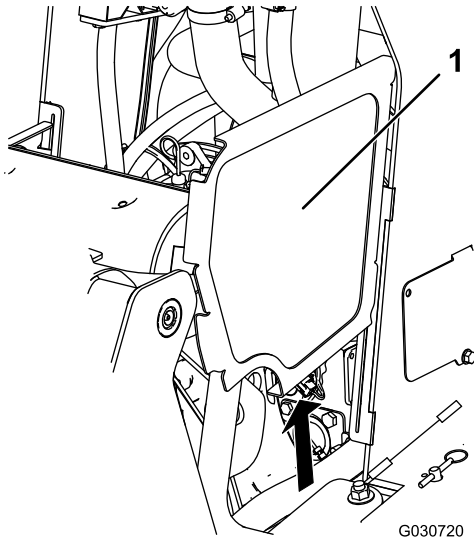

Figure 37
2. Slide the side screens (Figure 37) up and out of the slots in the front screen and frame.